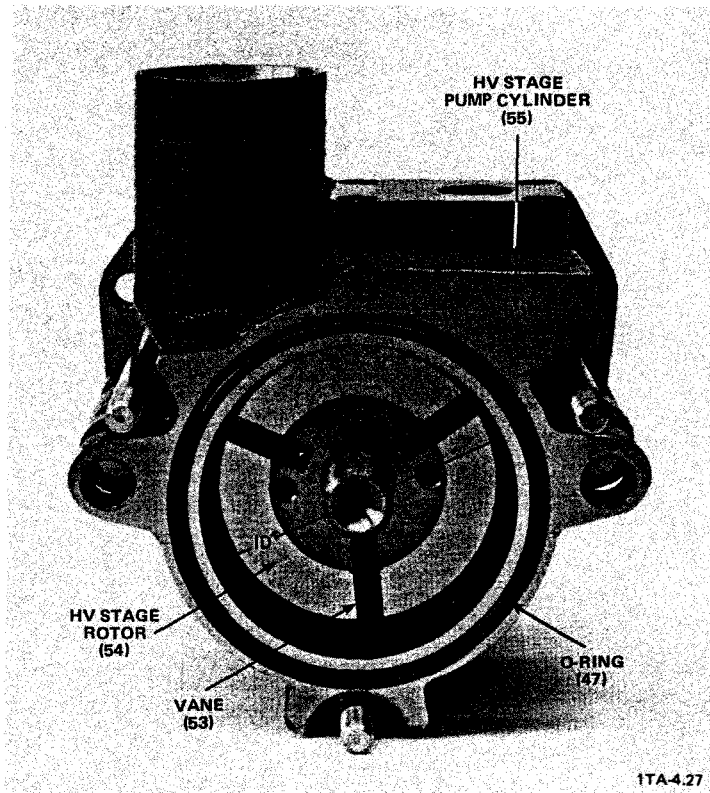
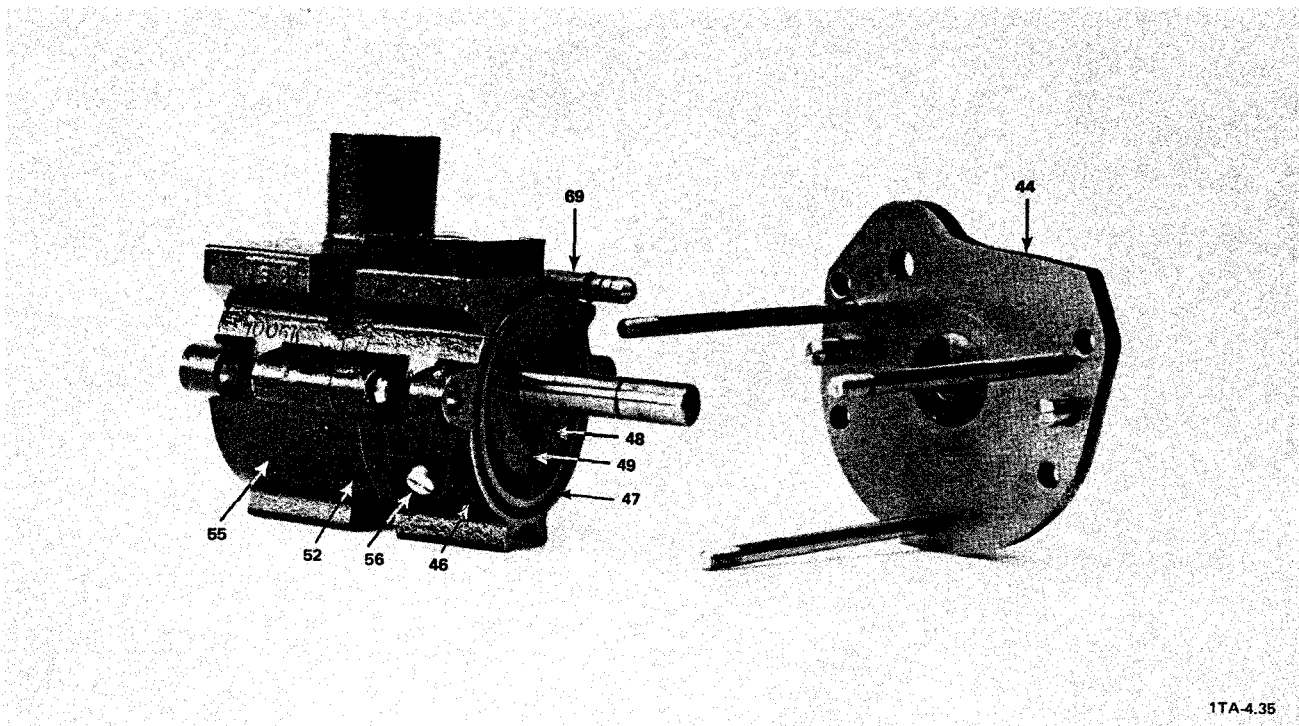
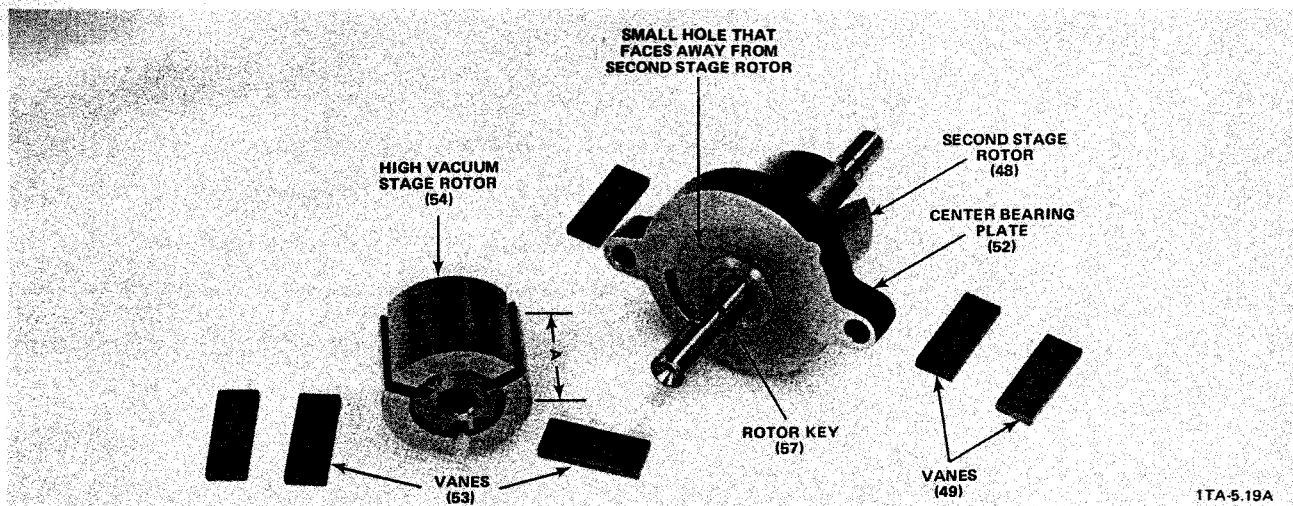

Figure 5-7. High Vacuum (HV) Stage Pump Cylinder (D2A Pump Model Shown)
Figure 5-8. Second Stage Pump Cylinder (D2A Pump Model Shown)
Figure 5-9. High Vacuum Stage Rotor Removed From the Shaft (D2A Pump Model Shown)
**REQUIRED ACTION:** Using long nose pliers, remove the three vanes (53) from the high vacuum rotor (54). (See Figure 5-7).
- C-12 Remove the high vacuum stage pump cylinder (55) to expose the high vacuum rotor (54) and the center bearing (52). Remove the O-rings (47) from both sides of this pump cylinder (see Figure 5-7).
- C-13 Remove the front end plate (44) from the motor side of the shaft (see Figure 5-8).
- C-15 Remove the second stage pump cylinder (46) to expose the second stage rotor (48). Remove the O-rings (47) from both sides of this cylinder (see Figure 5-8).
- C-16 Repeat Step C-11, except remove the vanes (49) from the second stage rotor (48). (See Figure 5-8).
**REQUIRED ACTION:** Using a puller or a prying device, remove the high vacuum stage rotor (54) from the shaft.
**NOTE:** Two threaded metric pulling holes are located in the outside end of the high vacuum rotor (54) for use with a puller (see Figure 5-7).
**NOTE:** The second stage rotor (48) and the shaft are permanently attached to each other on the D2A, D4A, D8A, and D16A pump models.
- C-18 Using small diagonal cutting pliers, pull the high-vacuum-stage rotor key (57) from the slot in the shaft (see Figure 5-9).
- C-19 Slide the center bearing (52) off of the shaft (see Figure 5-9).
**NOTE:** For use during reassembly, the ends of the threaded studs (62) that have the shorter threaded section screw into the front end plate (44) (see Figure 5-8). During reassembly, the threaded studs should be screwed until they are tight in the front end plate.
- D-10 Repeat Step D-8, except remove the shaft seal (45) from the front end plate (44).
- d. **For D30A, D60A, and D90A pump models only,** clean the brass air nozzle screw (66) located inside of the intake tube portion of the high vacuum pump cylinder (55).
- e. The tiny silencing hole in the side of the gas ballast valve (17) stem just **below** the bolting flange - use fine wire to clear any dirt from the hole; **DO NOT ENLARGE THE HOLE.**
- E-4. Using a brush, thoroughly clean the center bearing (52). (See Figure 5-9.)
- E-5. Clean all dirt accumulation or buildup from the three vane slots in each rotor (48/54). (See Figure 5-9.)
- a. The ends of each rotor (48/54) may be wearing against the inside surface of the front (44) and rear (60) end plates or against the center bearing (52). Inspect these surfaces for gouges and wear (see Figure 5-8). If you observe scoring or wear, proceed as follows:
- (1) Replace the plate that is scored.
- (2) Check the rotors for burrs. If burrs are found, sand or file them smooth.